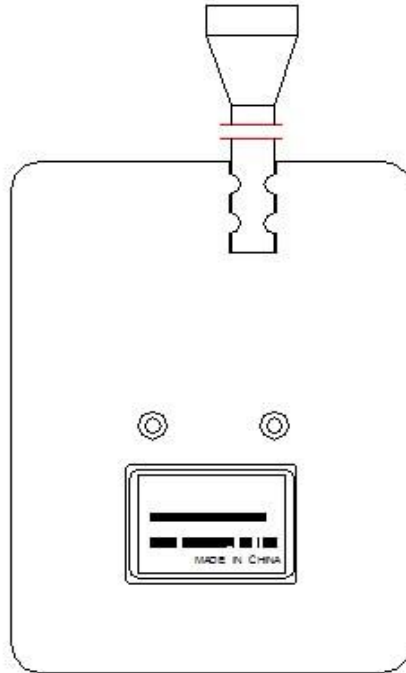

Fig. 4 (For HT200)
- b. HT200 (Motorized Roller Blinds) -- Fig. 4